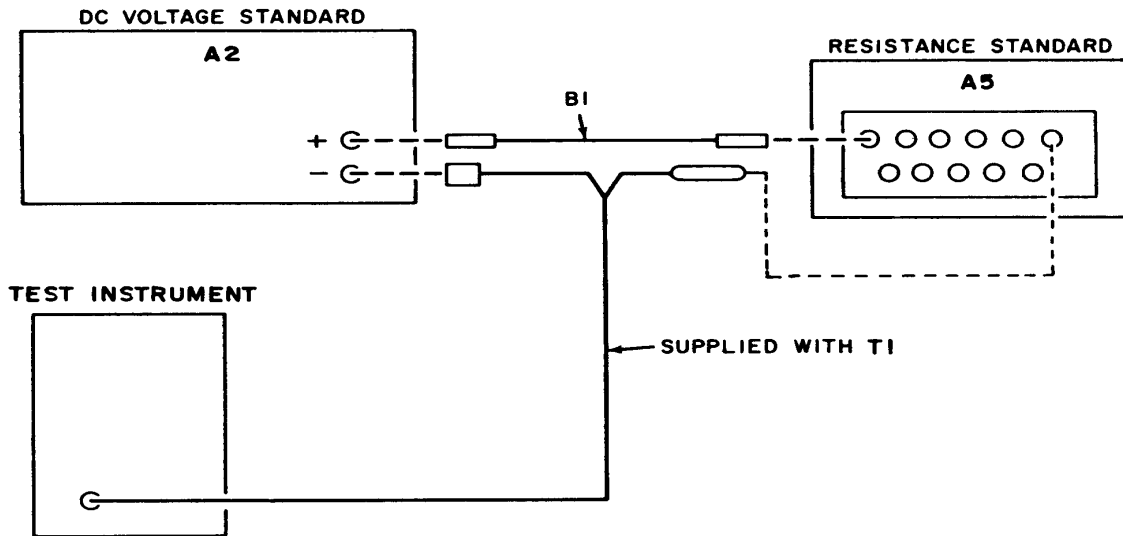

Figure 3. DC current range check - equipment setup.
- (1) Connect equipment as shown in figure 3.
- (2) Set FUNCTION switch to CURRENT and RANGE switch to .3 MILLI-MICROAMPERES.
- (3) With resistance standard (A5) connected for 1000 megohms, adjust dc voltage standard (A2) for a full-scale indication on TI. Dc voltage standard will indicate between 0.291 and 0.309 V.
- (4) Repeat technique of (2) and (3) above for TI switch settings and indications listed in table 6. Dc voltage standard will indicate within limits specified.